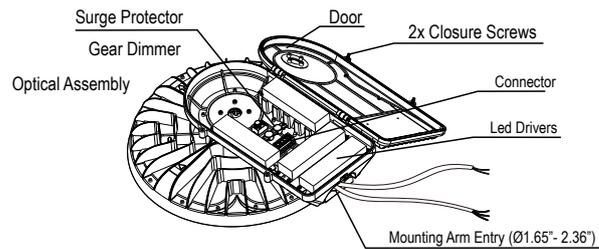

Figure 1
- Description of each part of the product, (Figure 1)